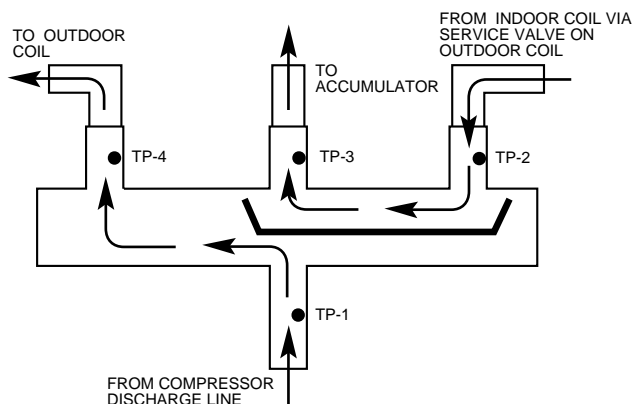
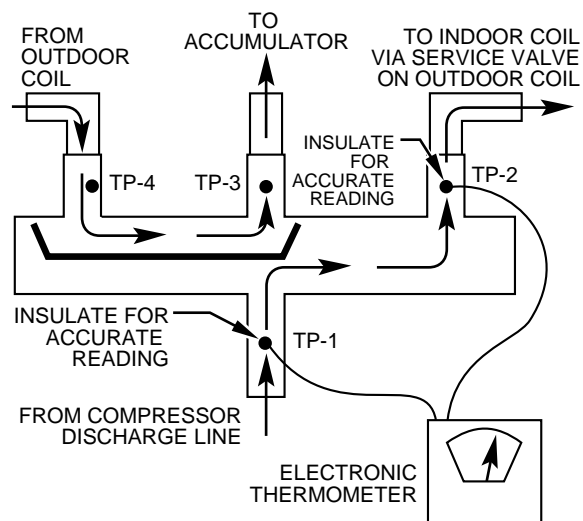

Fig. 26—Reversing Valve (Cooling Mode or Defrost Mode, Solenoid Energized)
Fig. 27—Reversing Valve (Heating Mode, Solenoid De-Energized)
electronic-type thermometer with multiple probes. Route thermocouple leads to inside of coil area through service valve mounting plate area underneath coil. Fig. 26 and Fig. 27 show test points (TP) on reversing valve for recording temperatures. Insulate points for more accurate reading.